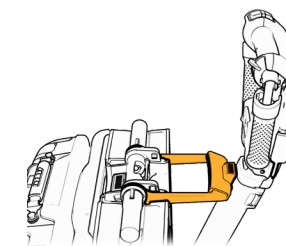

Figure 48
4. Connect the main handle to the rod button housing (See Figure 48).